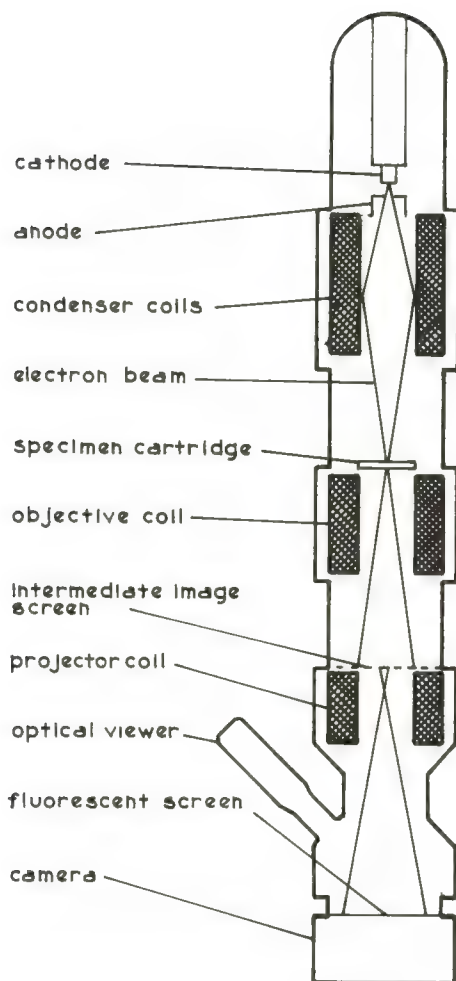

Figure E-11
Figure E-11 illustrates the arrangement and operation of a transmission electron microscope, which has three essential systems: (1) an electron gun and condenser system that produces the electron beam and focuses it on the specimen being examined; (2) an image-producing system with an objective lens, movable specimen stage, intermediate and projector lenses, which focusses the electrons passing through the specimen to form a real, highly magnified image; and (3) the image-recording system, consisting of a fluorescent screen for viewing and focussing the image, and a camera for permanent records. A vacuum system and regulated electronic power supplies are also required.